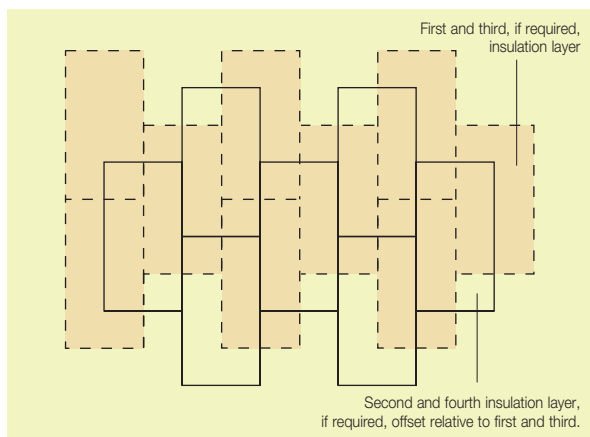

Figure 12 Offsetting of Multiple Insulation Layers
- If two or more layers of insulation are required, they should be horizontally offset relative to each other so that, as far as possible, the board joints in any two adjacent layers do not coincide with each other (see Figure 12).